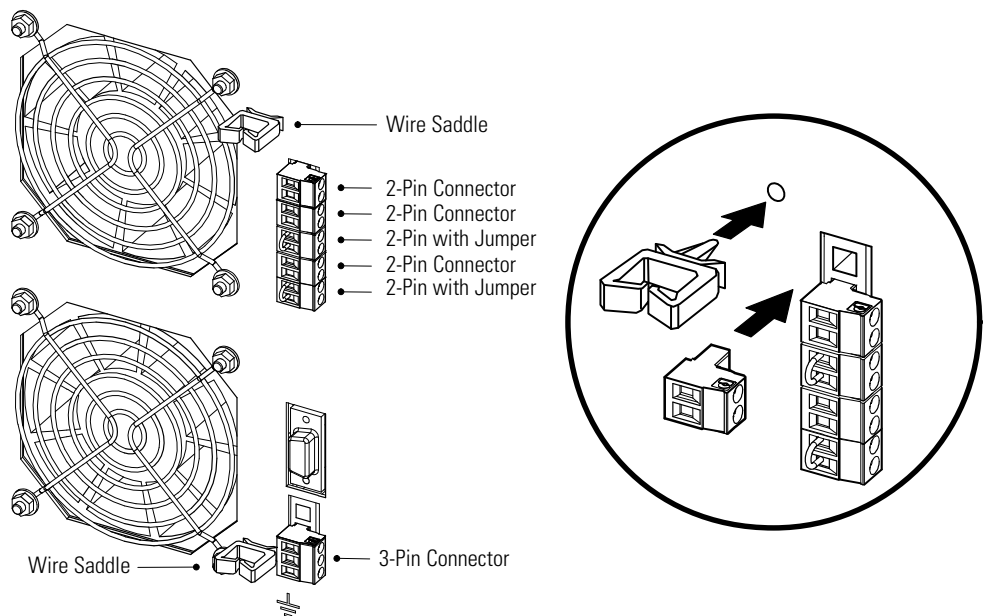

Figure 51. Installing the Communication Terminal Block Connectors
18. On the UPS rear panel, plug in the supplied communication terminal block connectors as shown in Figure 51.
19. **Optional but recommended.** Press the two supplied wire saddles into the holes on the rear panel, as shown in Figure 51. During wiring installation, secure any wires to the connectors within the saddles.